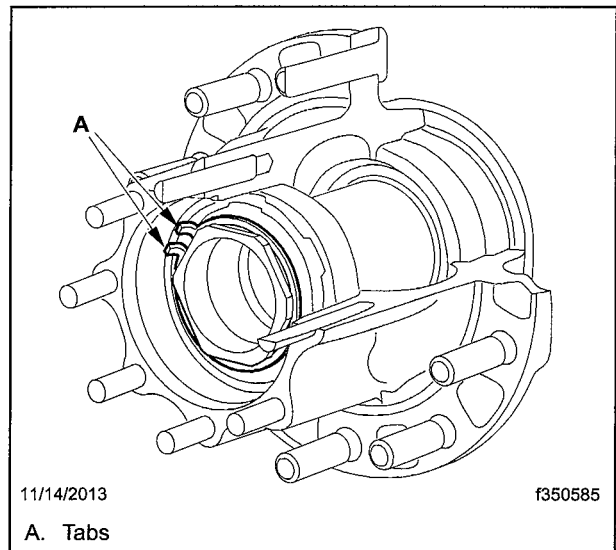

Fig. 7, Lock Ring, ConMet PreSet Plus Hub
- 16.2 Using the tabs, seat the lock ring in the machined grooves of the spindle nut. See Fig. 7.